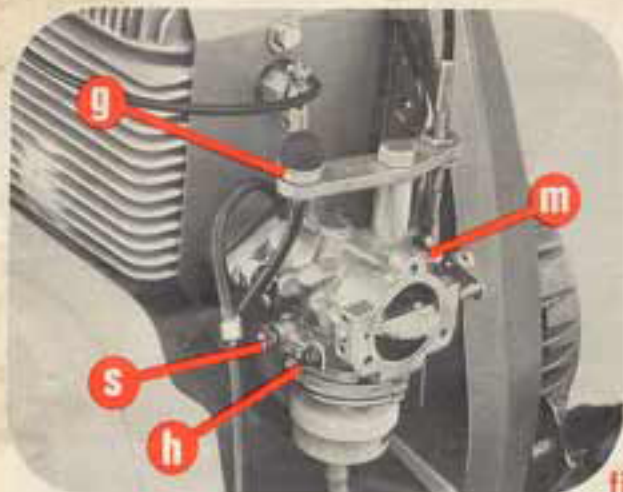

fig. 2
- D. The **PRIMER BUTTON** is located on the top of the carburetor (fig. 2, g). Press it twice (not more) to start your MOTO-SKI engine.
- H. The **CARBURETOR ADJUSTMENT SCREWS** are located on the carburetor itself (fig. 2):
1. **IDLE ADJUSTMENT SCREW** (fig. 2, s); gradually turn screw clockwise, as far as it will go, then re-open it $\frac{3}{4}$ to 1 turn anti-clockwise.
2. **MAIN ADJUSTMENT SCREW** (fig. 2, h); turn screw clockwise as far as it will go, then re-open it 1 to $1\frac{1}{2}$ turns anti-clockwise.
3. **SPEED ADJUSTMENT SCREW** (fig. 2, m); loosen screw so it no longer touches the lever, then tighten it $1\frac{1}{4}$ to $2\frac{1}{2}$ turns.
- f) When the engine starts, (1) move the compression release lever to the right and (2) push the choke back in.
- a) Press primer button twice (no more) if engine is cold (fig. 2, g)